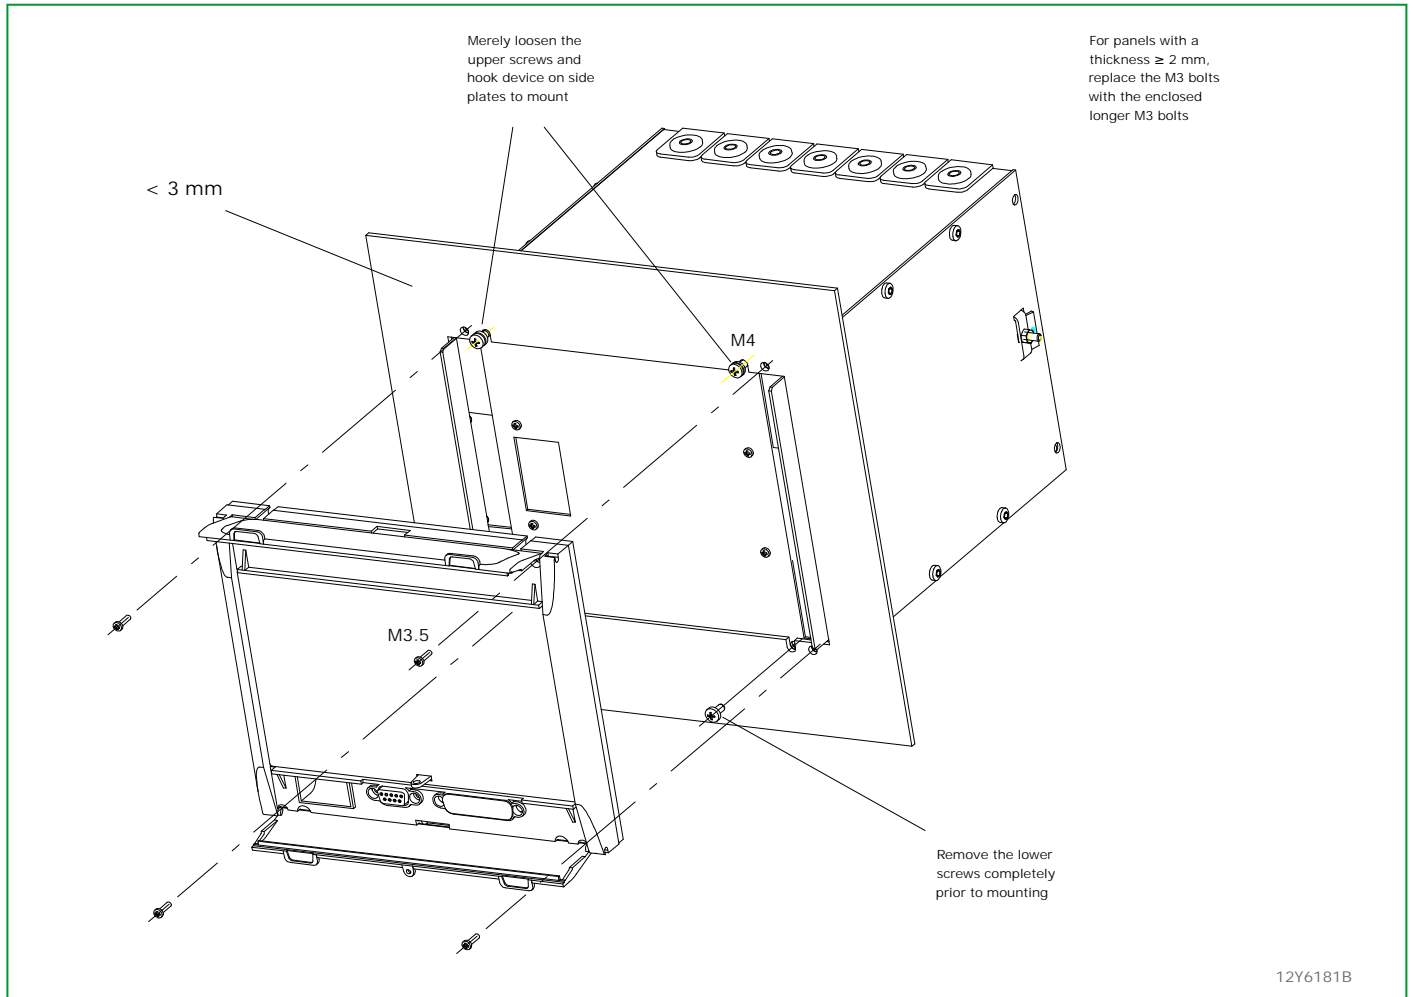

Fig. 5-3: Installation of a case into a control panel. Flush-mount method 1 (without the angle brackets and frame ). Example for a device with a 40 TE case.
2. Remove the M3.5 screws (see Fig. 5-3, (p. 5-9)).
Then remove the lower M4 screws and only loosen the upper M4 screws (see Fig. 5-3, (p. 5-9)). Now insert the P634 into the panel opening from the rear so that the upper M4 screws fit into the corresponding holes. Then tighten all the M4 screws. After this, replace the local control panel.